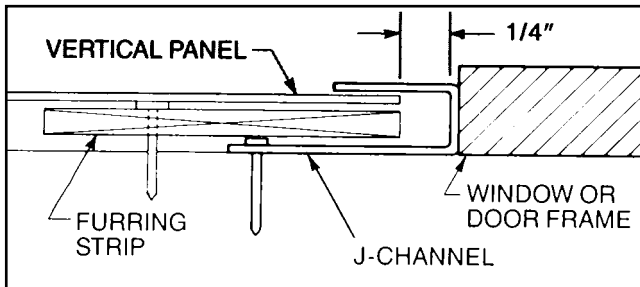

Fig 8.2
- D. If the panel is cut vertically outside the V-groove, use dual undersill trim. A furring strip can also be used to maintain an even surface plane (Fig. 8.2). Be sure when fastening